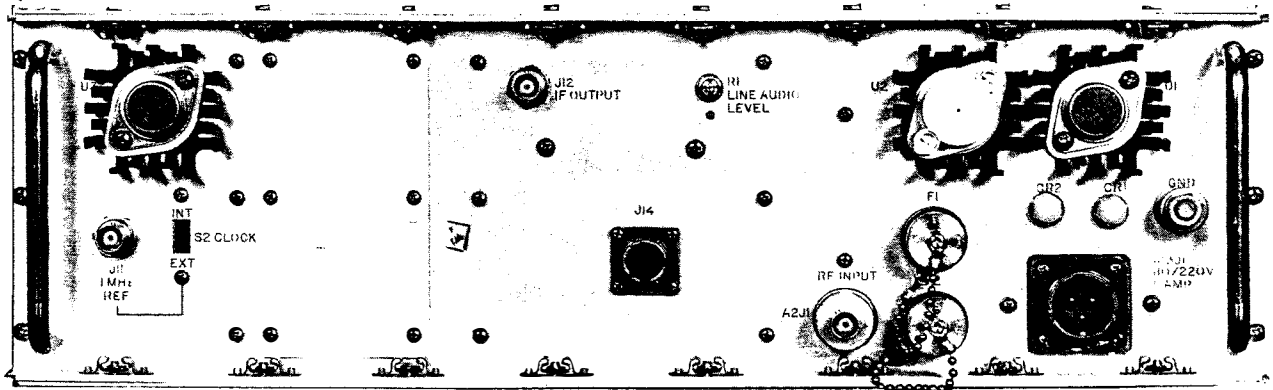

Figure 8-2. AN/URR-74(V)2 Radio Receiver, Rear Panel
**8.11 CONNECTORS.** Figure 8-2 is a photograph of the rear panel showing the location of the input and output connectors. Table 8-2 lists the function and type for each of the input and output connectors. The antenna system connects to the receiver through connector A2J1. Refer to paragraph 2-2.b.(8) for this connector input characteristics. AC line power comes in through connector A13J1. Refer to paragraph 2-2.b.(10) for connector pin designations. When used, external audio equipment is driven through Audio output connector J14. Refer to paragraph 2-2.b.(5) for pin designations and output characteristics for the various outputs from this connector. J12, supplies the receiver IF output. Refer to paragraph 2-2.b.(1) for the characteristics of this output.
**8-12. INT/EXT REF SELECTION.** The receiver may be operated with an internally or externally supplied reference frequency. To use the internal reference, set the INT/EXT S2, CLOCK switch on the rear panel (see figure 8-2) to INT. To use the external reference set this switch to EXT and connect the external 1 MHz reference source to J11. With S2 in the INT position a 1 MHz reference output is available at J11. Refer to paragraph 2-2.b.(3) for the required output characteristics of the reference source to be used in EXT and the output characteristics of J11 in INT.